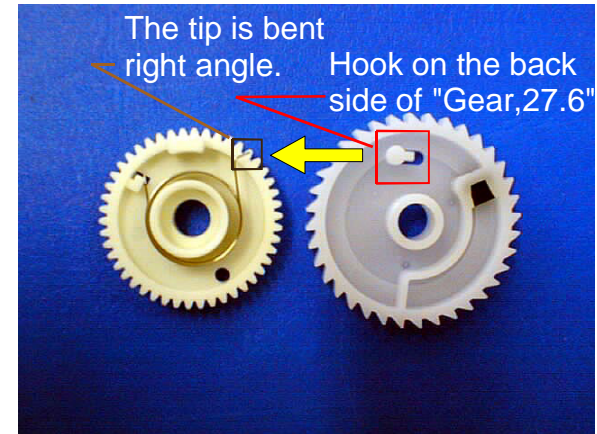

Figure 4-75. Connecting "Gear,27.6" and "Clutch Lifter"(1)
- Step. B Cover "Gear, 27.6" on "Clutch, Lifter", hanging the leg of "Torsion Spring, 1.77", which is bent right angle, to one hook located on the back side of "Gear,27.6". (Refer to Figure4-75)